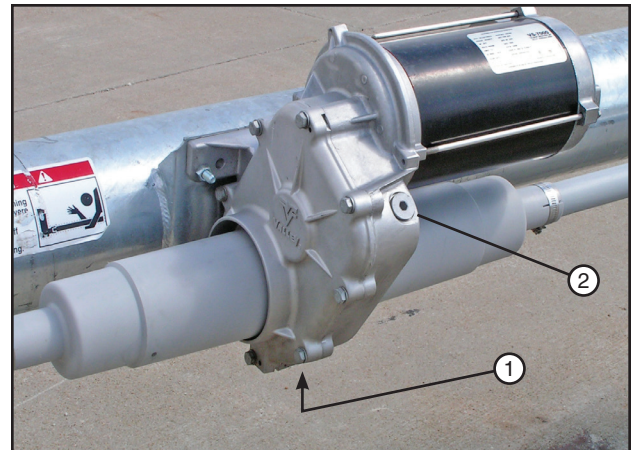

Figure 67-1 1. Drain Plug
1. Remove the drain plug and the fill plug. Drain the oil and install the drain plug. See figure 67-1.